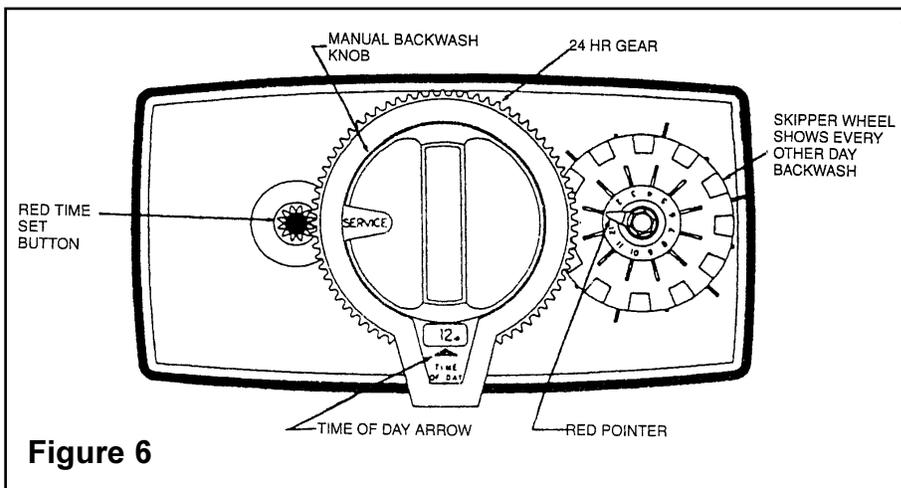

Figure 6
1. Setting the 24 Hour Timer (Figure 6)
2. Setting the Regeneration Frequency (Figure 6)